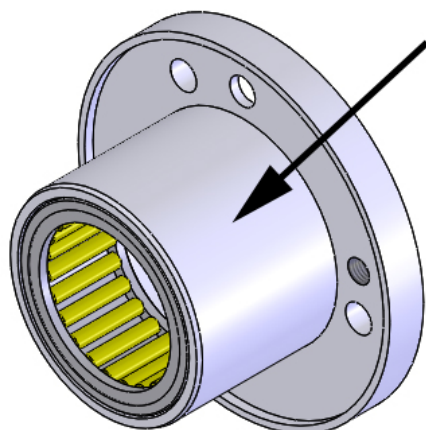

Figure 36. Spreading area of the adhesive compound
1. Spread adhesive sealing compound on to the area indicated in figure 36 .